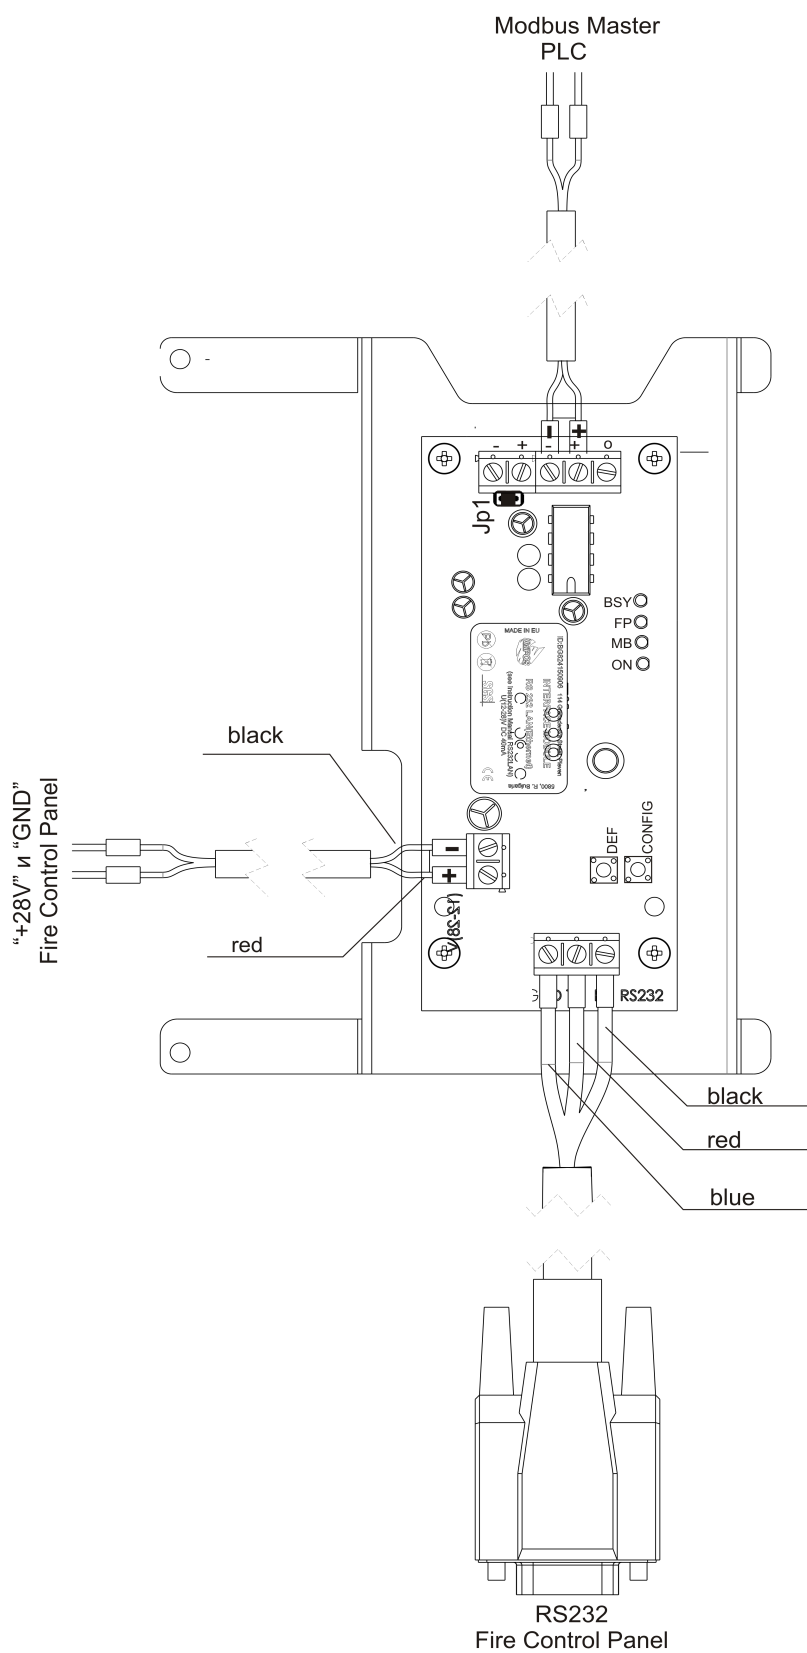

fig.1.2
- Install the RS cable as described on fig.1.2 – black > RX, red > Tx, blue > GND;
- Install the power cable as described on fig.1.2. and then power supply the module from the 28Vdc user voltage of the 7002 panel;